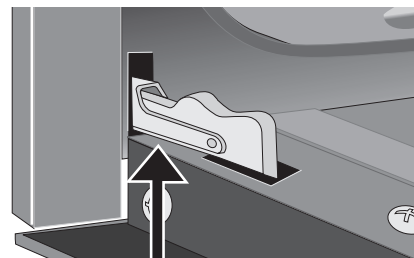
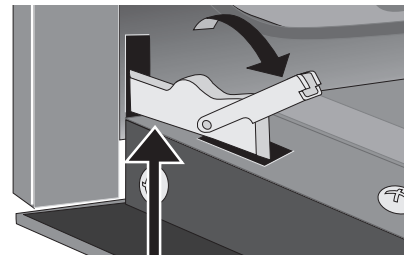

Figure 7: Door hinge locked
Figure 8: Unlocking door hinge
2. Pull up the lock located on each hinge support toward front of the oven until the lock stops. You may have to apply a little upward pressure on the lock to pull it up (Figure 7 and Figure 8).
4. Push the door hinge locks up toward and into the oven frame on both left and right oven door hinges to the locked position (Figure 7).